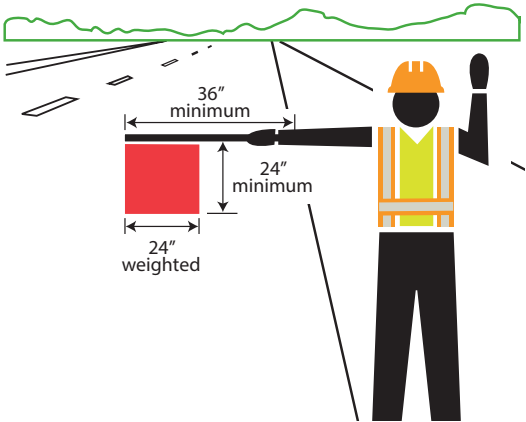

Figure 14
- Extend the flag into the traffic lane. **(Figure 14)**